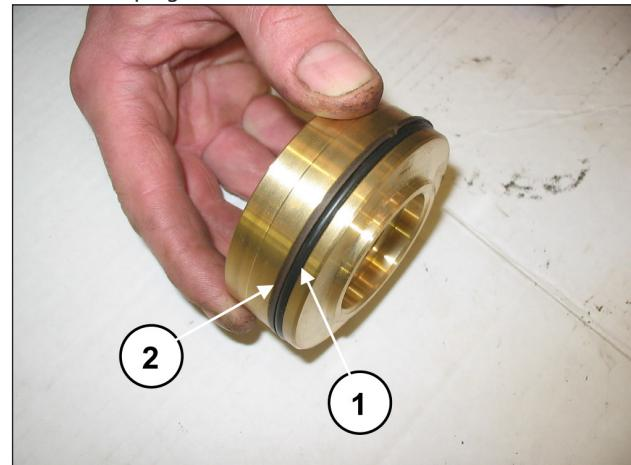

Fig. 131
Fit the O-ring, exploded view pos. 17 (pos. ①, Fig. 131) and back-up ring, exploded view pos. 21 (pos. ②, Fig. 131) on the outlet valve plug.